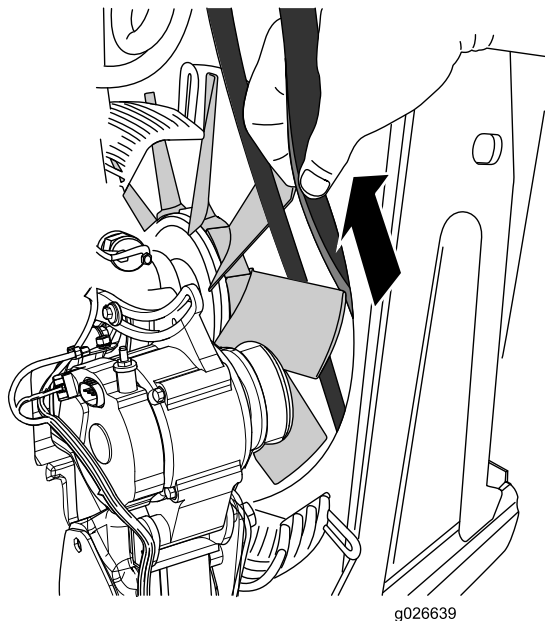

Figure 88
- Align the belt between 2 of the fan blades, then carefully pull the belt rearward and up until you can remove it from the machine (Figure 88).
- Align the belt between 2 of the fan blades, and carefully push the belt forward and down until it is in front of the fan (Figure 88).